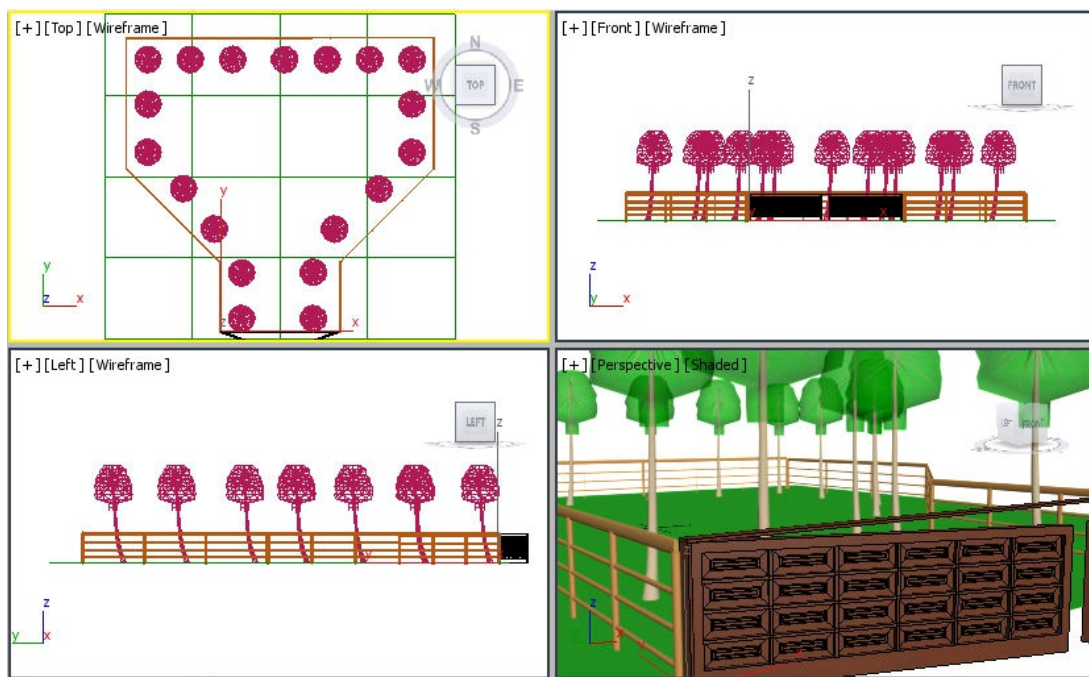

Figure 4-65 The gate geometry aligned in viewports
8. Align *gate* using the **Select and Move** and **Select and Rotate** tools, as shown in Figure 4-65.